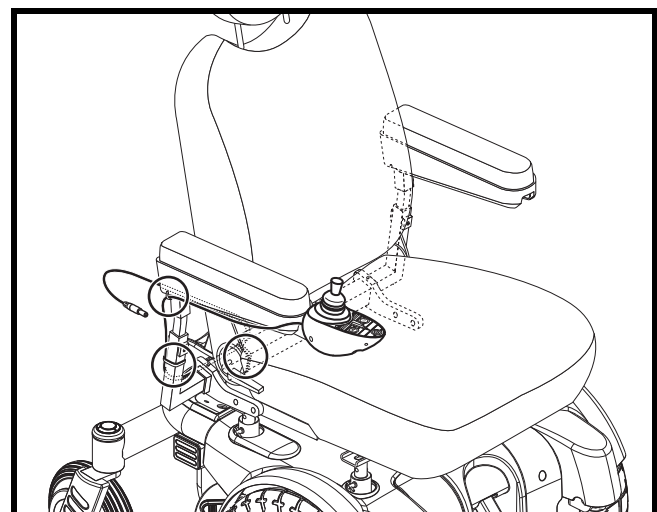

Figure 14. Controller Harness Routing Wire Tie Locations - Contour Seat
12. Secure the controller harness to the armrest with wire ties. See figure 14.